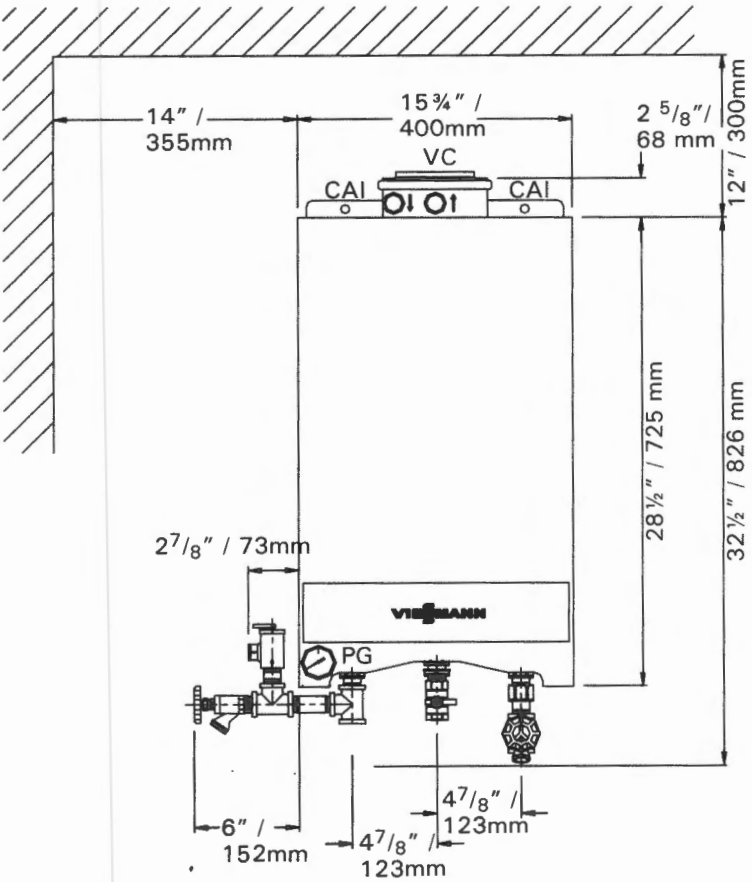

Fig. 2
- a* See fig. 2 for dimensions